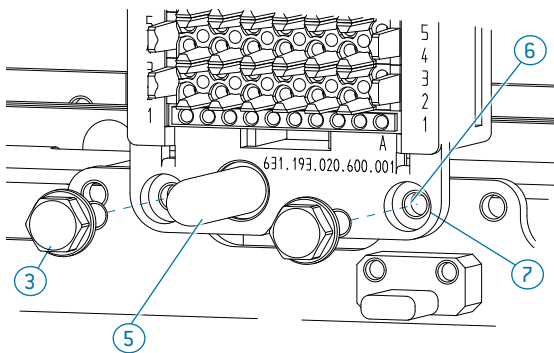

Fig. 73
- Make sure the guiding pins (4) (5) on the connector are facing the mating direction.
- Position the edge with the two guiding pins (4) at the top. Take note of the slot label at the top.
- Align the holes in the connector (7) with the threaded holes in the adapter (ITA) (6).
- Use the four screws (3) to secure the connector. Take note of the specified tightening torque.
- After assembly, the connector (1) must be mounted in a floating position (Fig. 73).
- Please use an appropriate cable length for the cable harness of the connectors (3). To remove the connectors (3) it is necessary to pull these to the front, turn it slightly and push the connector through the receiver.